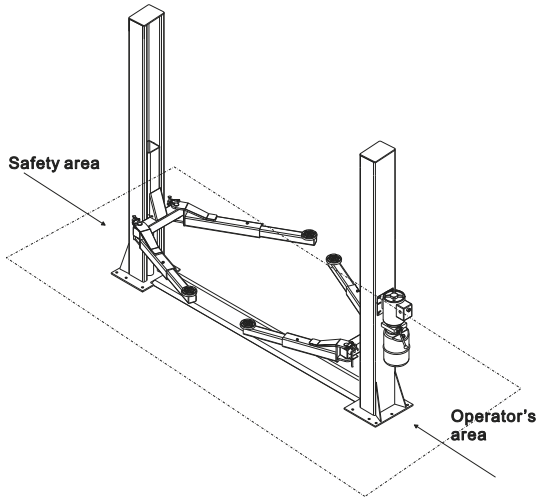

Fig. 10 Working Area
- ◆ People rest inside the safety area while the vehicle raising. (Fig. 10)